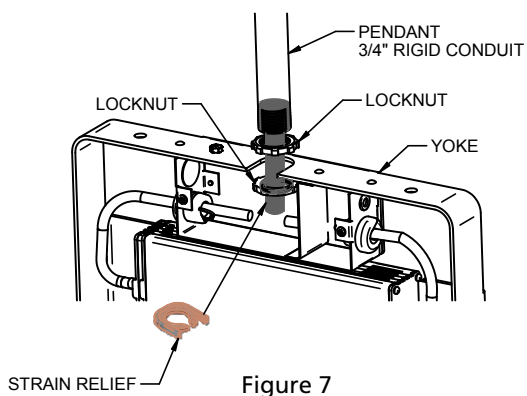

Figure 7
**INSTALLING PENDANT MOUNT (See Figure 7):**